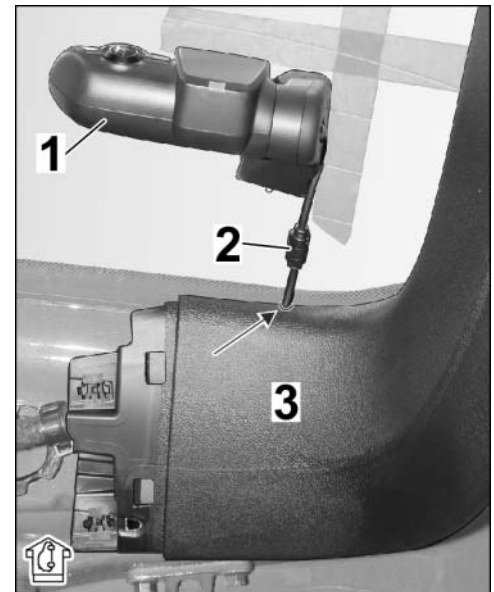

Figure 20 (example 9YA)
⇒ *Figure 20 (example 9YA)*
- 4.1.2 If not: Mark line routing on trim panel. ⇒ *Figure 20 (example 9YA)*